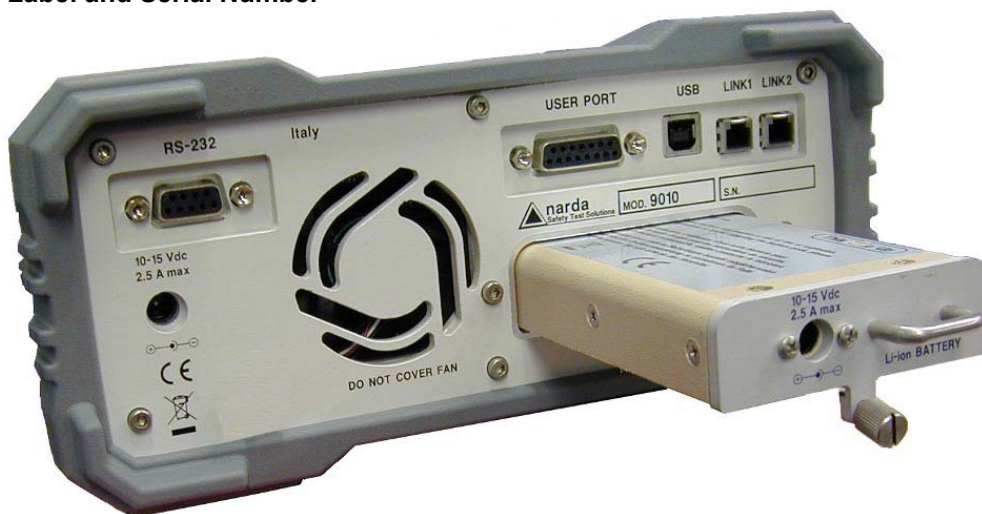

Fig. 1-3 BP-02 Replaceable Battery
- **Replaceable Li-Ion Battery (Fig. 1-3) with main Battery Charger connector**